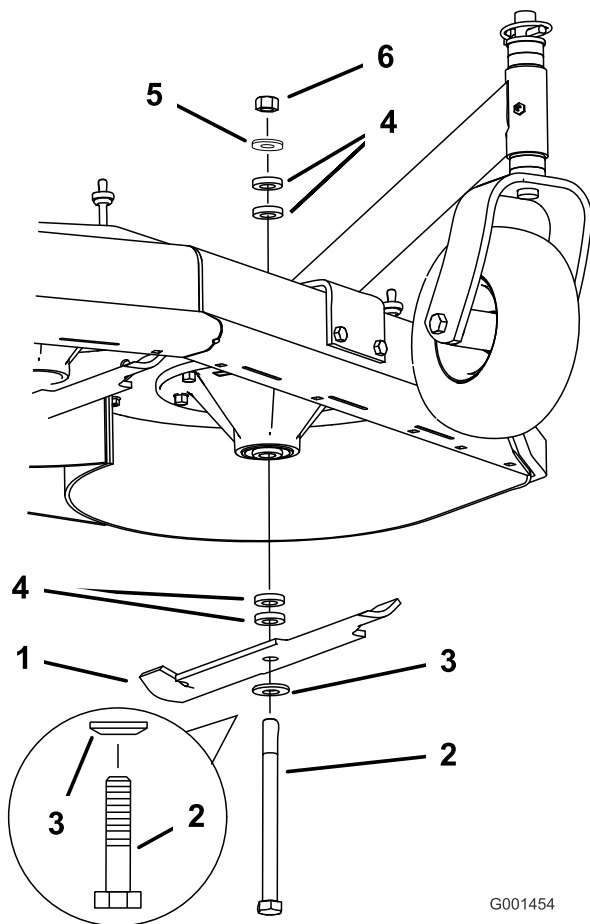

Figure 16
2. Remove the nut, blade bolt, curved washer, blade, spacers, and thin washer from the spindle (Figure 16).
1. Install the bolt, curved washer, and blade. Select the proper number of spacer(s) for the height of cut, and slide the bolt into the spindle (Figure 16).
2. Install the remaining spacer(s) and secure them with a thin washer and a nut (Figure 16).